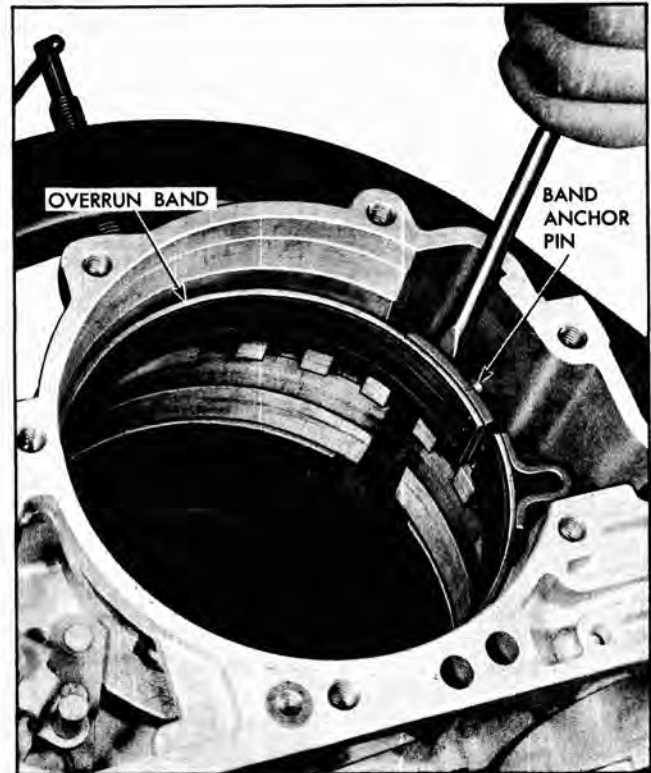

Fig. 64 Removing Overrun Band from Anchor Pin in Case
7. Remove the band assembly by unhooking from the anchor and lifting upward (Fig. 64).